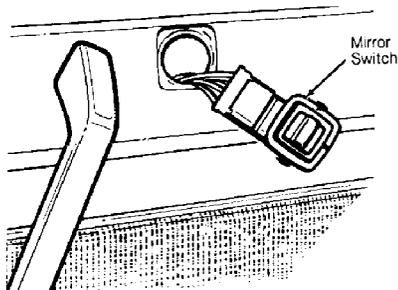
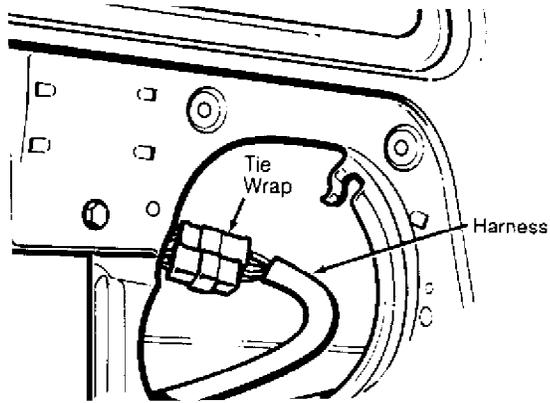

Fig. 8: Disconnecting Electric Mirror Switch (Vanagon)
Fig. 9: Securing Wiring Harness (Vanagon)
1) Disconnect battery ground strap. Pry out and disconnect electric mirror switch from door trim panel. See Fig. 8. Remove door trim panel, and carefully pull back plastic moisture barrier. Cut tie wraps securing wiring harness to door. See Fig. 9. Open harness far enough to expose and label individual wires. Remove labeled wires from plug connector.